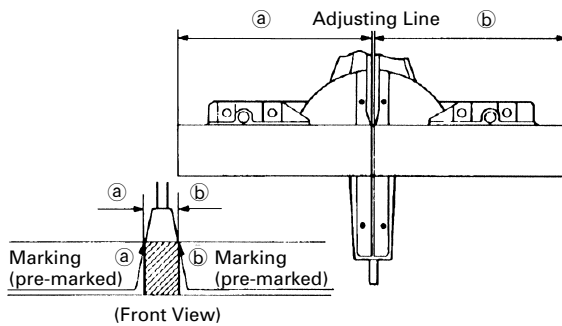

Fig. 25
- (1) As shown in Fig. 25 the width of the saw blade is the width of the cut. Therefore, slide the workpiece to the right (viewed from the operator's position) when length ② is desired, or to the left when length ① is desired.